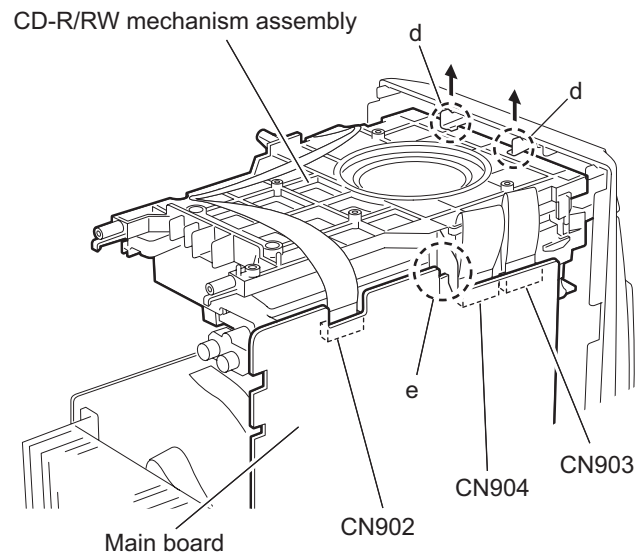

Fig.8
2.1.5 Removing the CD-R/RW mechanism assembly (See Fig.8)